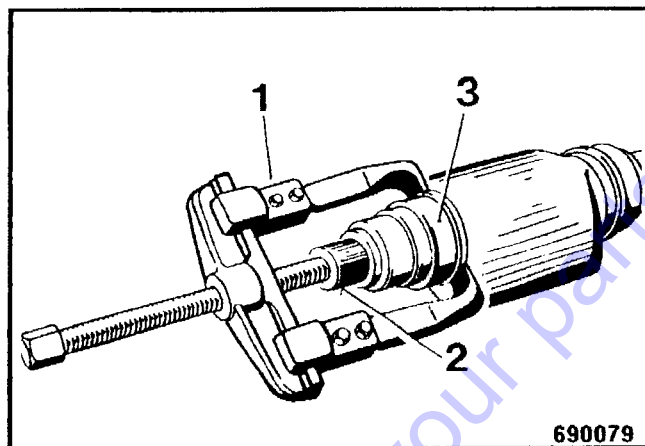

Fig. 21
- Attach the forcing pin 2 (Fig. 21) to the exciter shaft.
- Attach the puller (1).
- Pull the inner bearing ring (3) off the exciter shaft.